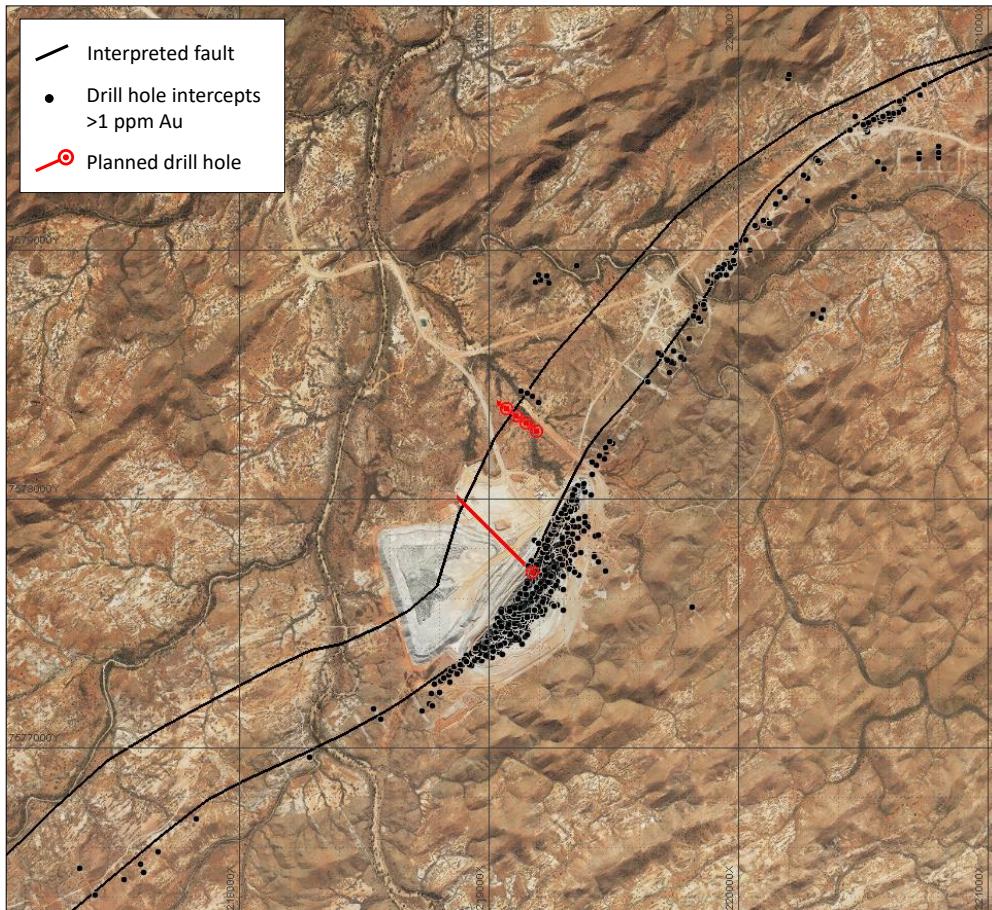

Figure 1: Bartons plan view showing planned exploration drill hole (in pink).
In addition to the resource in-fill and extensional drilling program at Bartons, Millennium will also undertake exploration drilling to target a prominent coincident electromagnetic (EM) and gravity anomaly located 350m to the north-west of the Bartons Underground mine (see Figures 1 - 3).